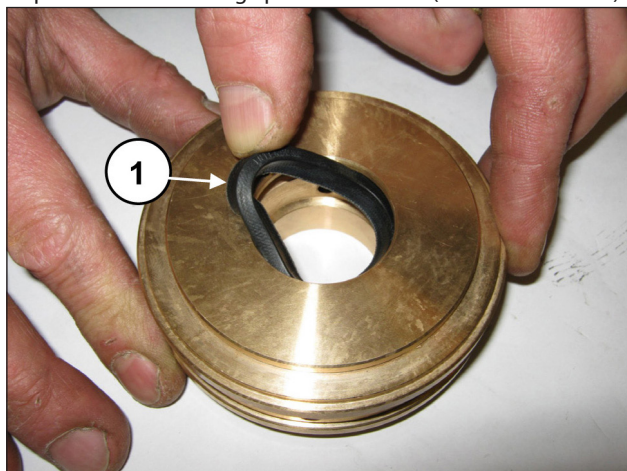

Fig. 181
Insert the low pressure seal in the seal support (pos. ①, Fig. 181) paying attention to the mounting direction which requires that the sealing lip be set forward (towards the head).